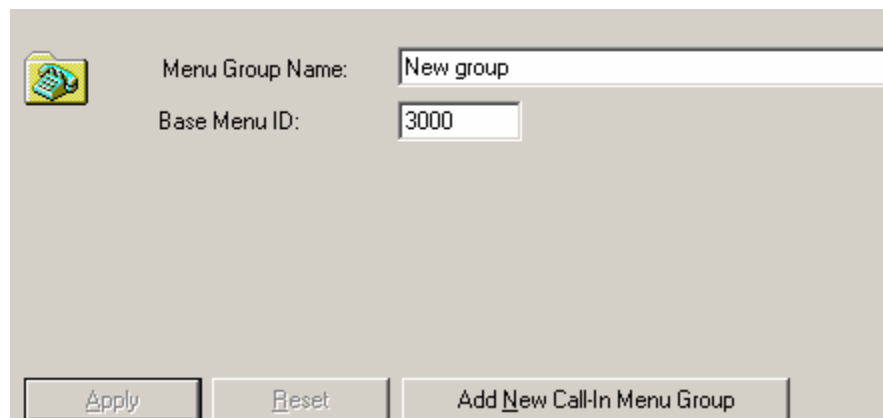

Figure 9.10. Setting the Properties for the New Call-in Menu Group
- The properties dialog box for the new group appears in the right-hand pane of the Configurator, as shown in **Figure 9.10**.